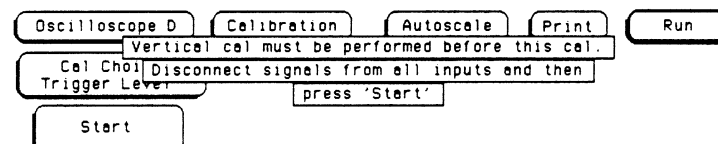

Figure 4-3. Trigger Level Cal Choice Screen
- b. From **Trigger Level** cal choice screen shown in figure 4-3, touch **Start**. Look for prompt on screen to show calibration is completed.